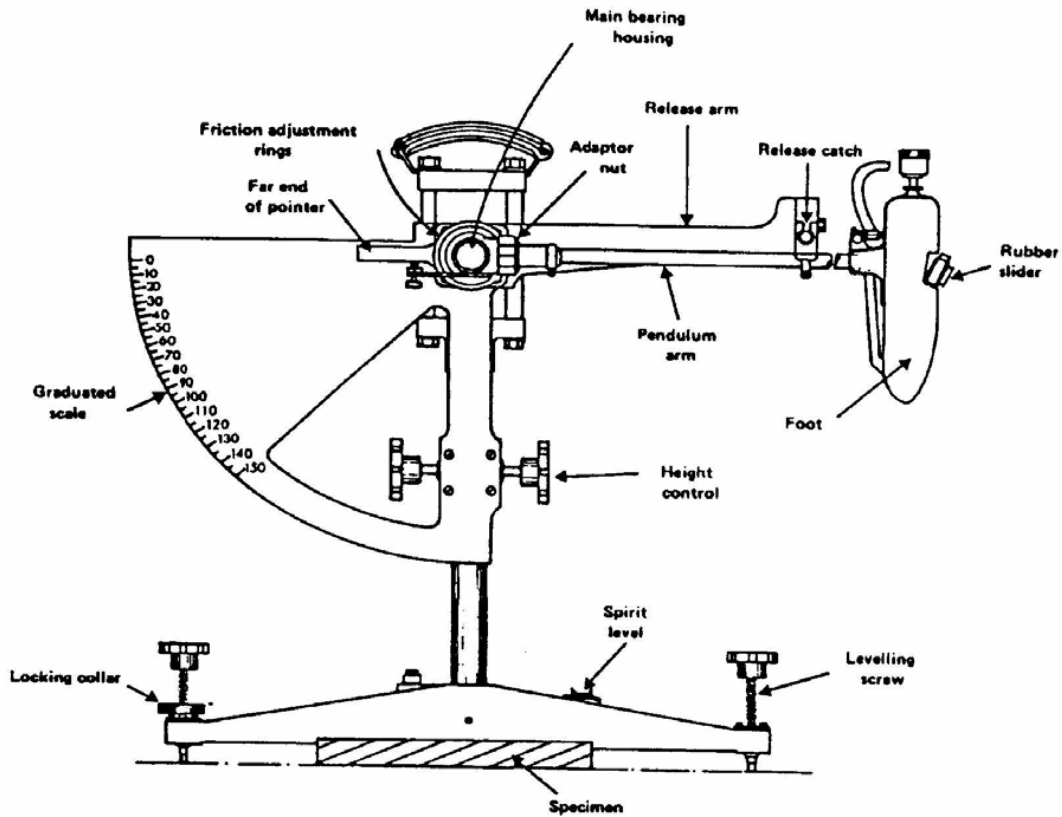

Figure 1. The British Pendulum Tester
- 2.6 Check the zero setting by releasing the pendulum arm with the release catch to allow the arm to swing through an arc and then catching the pendulum arm on its return swing. Observe the pointer reading and return both the arm and pointer to the original release position. The zero setting can be adjusted using the friction adjustment rings (see Figure 1). If the pointer has swung past the zero position screw the rings a little more tightly. If it has not reached the zero position unscrew the rings slightly. If windy conditions affect the zero setting use a wind guard.